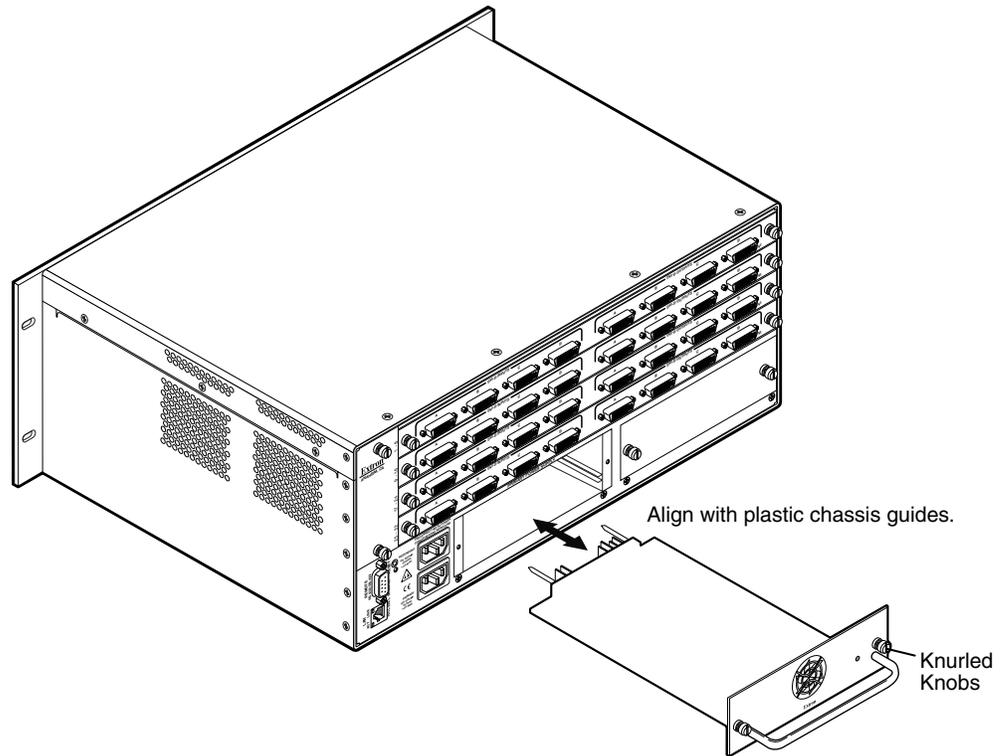

Figure 70. Power Supply Replacement
2. Gently pull on the handle to loosen the power supply from the backplane (see figure 70).
2. Align the flanges on the power supply module with the left and right plastic chassis guides (see figure 70).